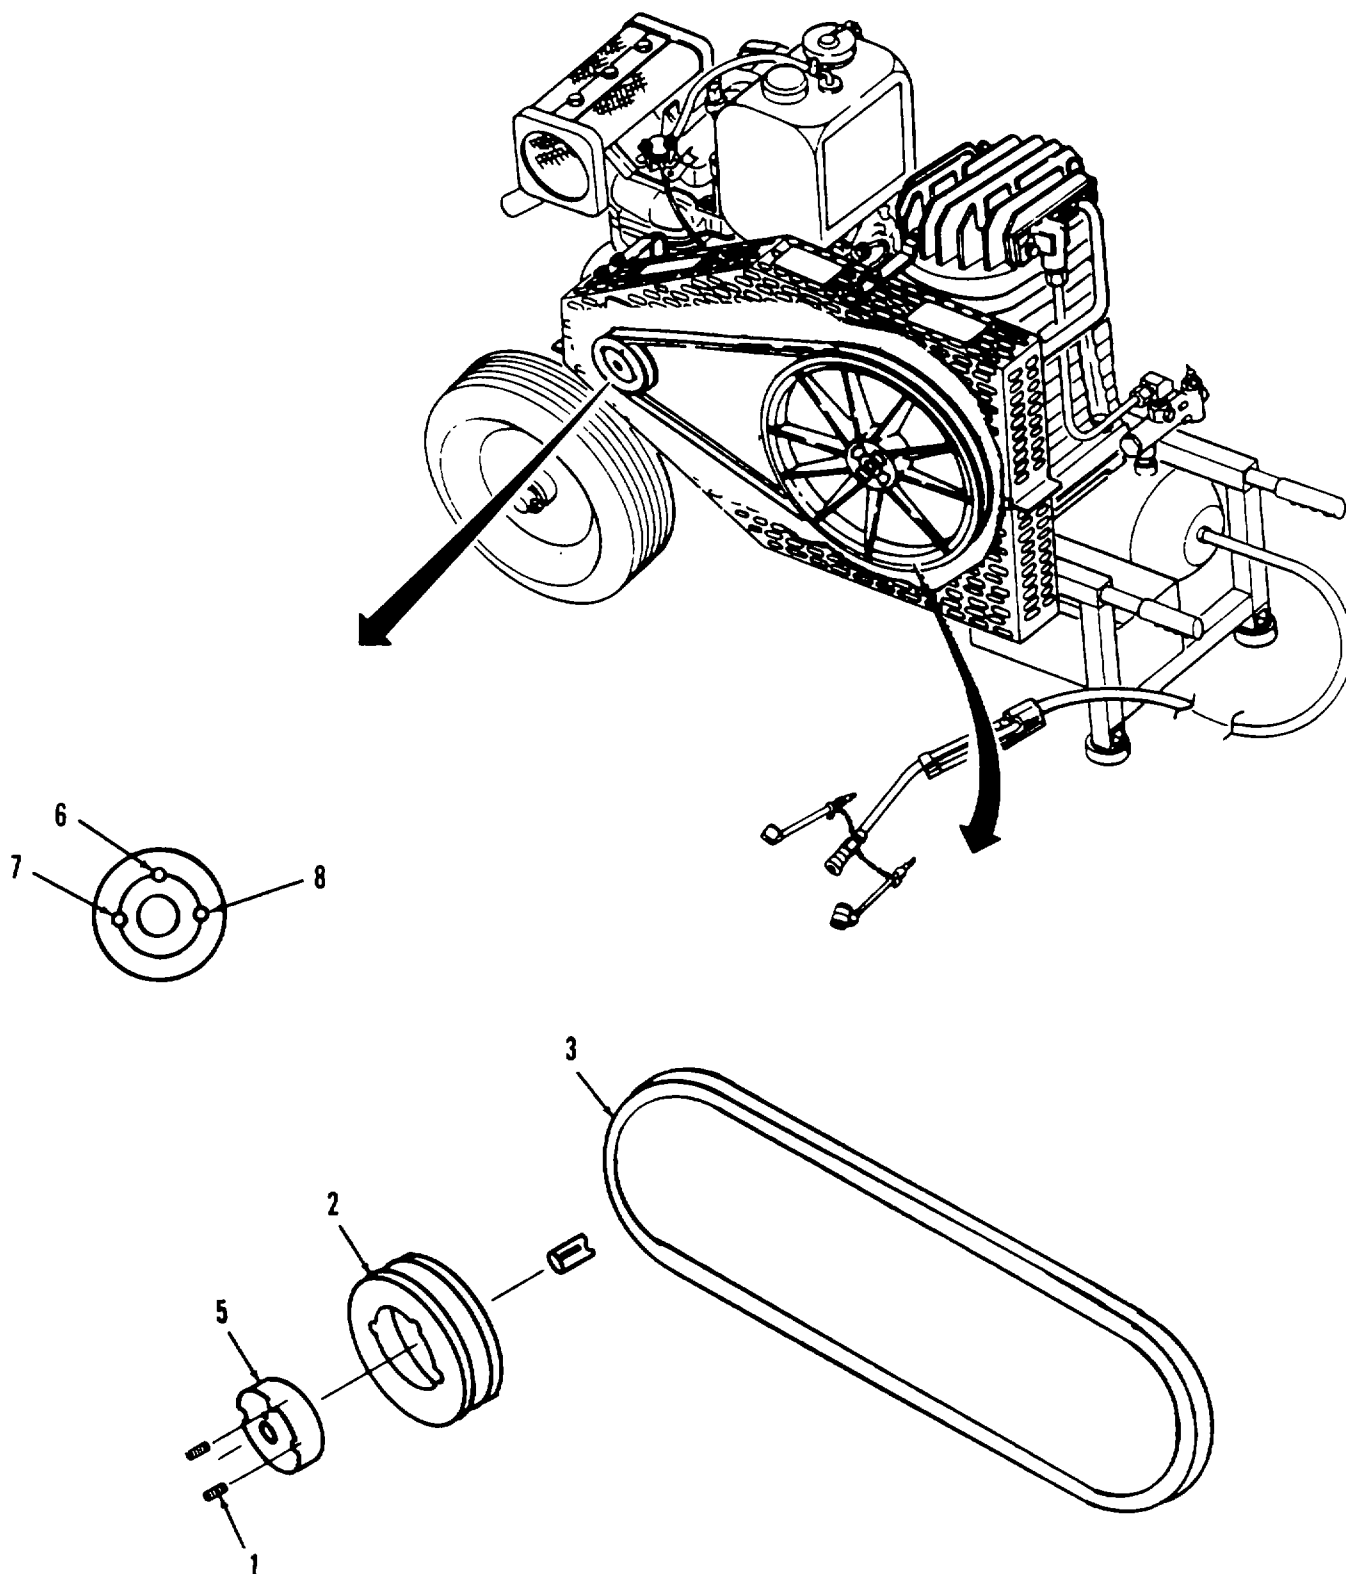

Figure 4-6. V-Belt and Sheave Repair and Replacement.
a. Removal. (Refer to Figure 4-6).
- (1) Loosen two set screws (1) and sheave (2).
- (2) Loosen V-belt (3) per paragraph 2-8.
- (3) Remove V-belt (3) from sheave (2).
- (4) Remove two set screws (1) from sheave (2).
- (5) Install one set screw (1) into hole (6) and tighten set screw to pull bushing (5) from sheave (2). If tightening the set screw does not readily pull bushing from sheave, tap sheave with rubber mallet to loosen bushing.
- (6) Remove sheave (2) and bushing (5) from engine shaft.